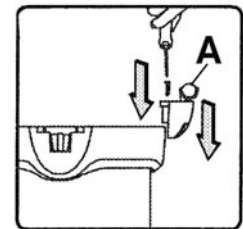

FIGURE 4
- 1) With the tank cover/motor assembly removed, turn the tank upside down. Insert the caster wheels (A) Fig.4 into the bottom of the tank as shown.